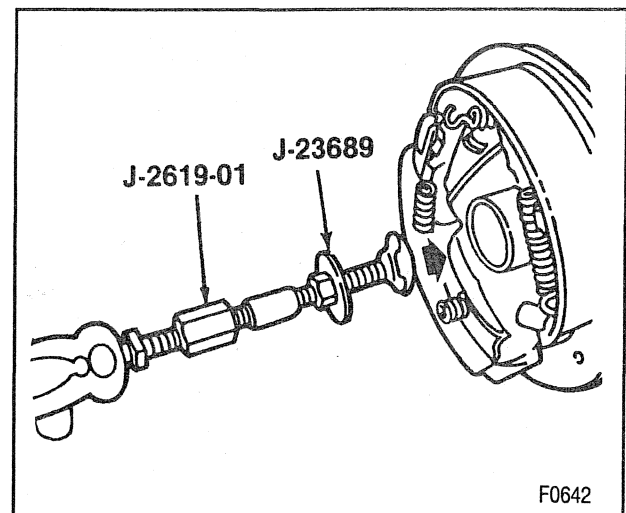

Figure 11—Removing the Bearing and Seal
- B. Insert the tool into the axle bore so that it grasps behind the bearing (figure 11). Tighten the nut and washer against the face of the bearing. Pull the bearing out using J 2619-01.